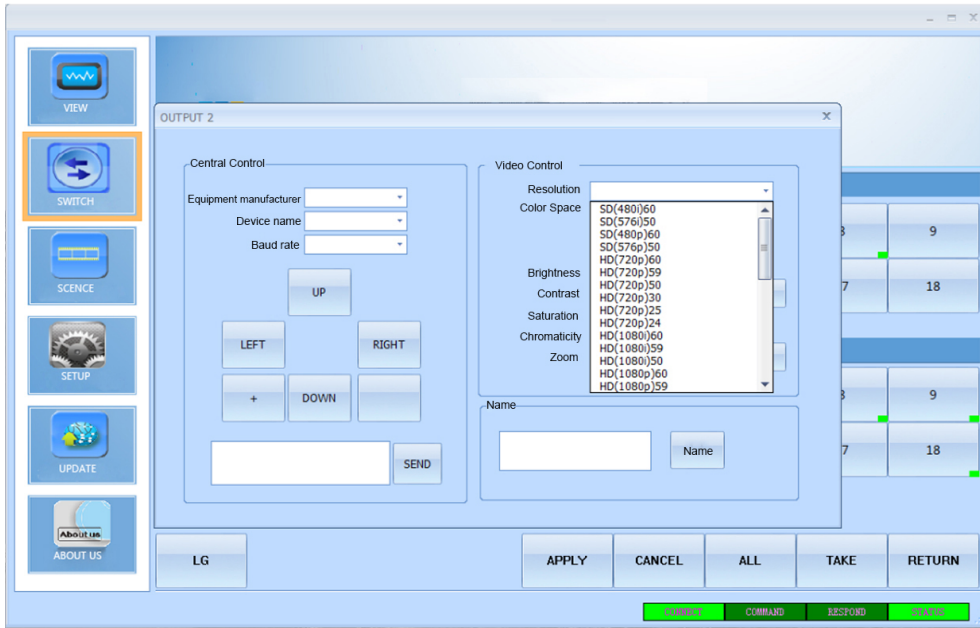

Figure 6.5.2 Output card central control, video control, name operation interface
2) **Output card**:double click the output signal in "SWITCH " interface, pop-up interface in figure 6.5.2 , in "control" column in which we can control the camera and other equipment connected to the card(**this function needs to ask suppliers for relevant information, command sent form see table 1**).In video control column we can choose various resolutions of the output card, adjust the brightness, contrast and saturation of the image.In the name column, we can enter a new name, and click "name" to change the name of the current input signal.